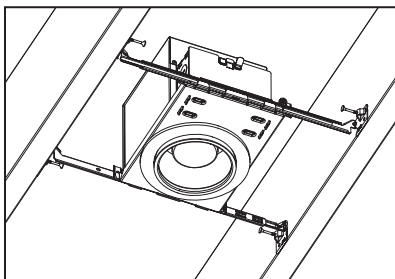
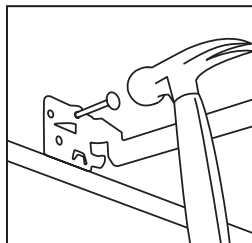

Figure 2
Figure 3
**Step 1.** Extend bar hangers to fit between joists. Bar hanger foot is contoured to easily align with bottom of joist (Fig. 2). Position fixture by hammering Real-Nails® into joists (Fig. 3).